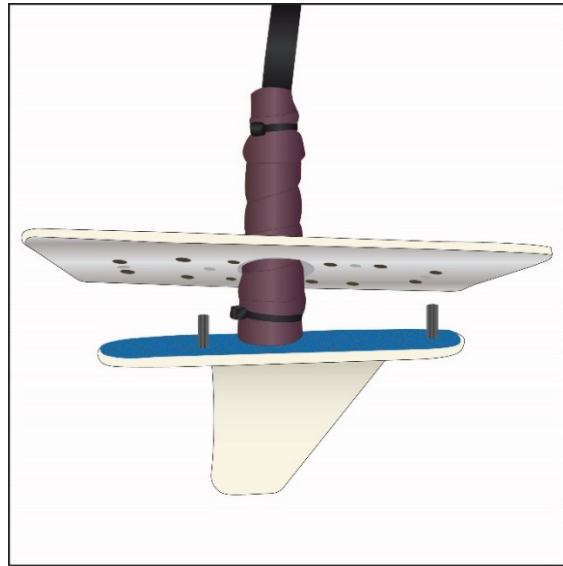

Figure 5
- 3) Align fasteners at the correct locations on the aircraft surface. (Figure 5)